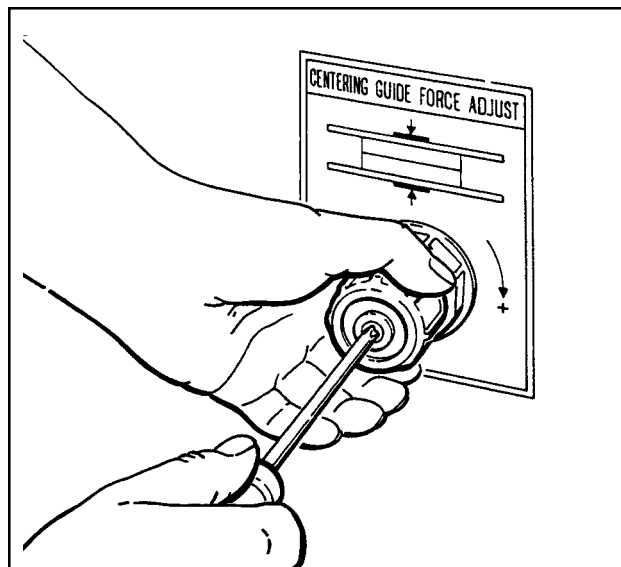

Figure 3-4– Air Regulator, Centering Guides
⑥ Air Pressure Regulator, Centering Guide Force Adjustment – Figure 3-4